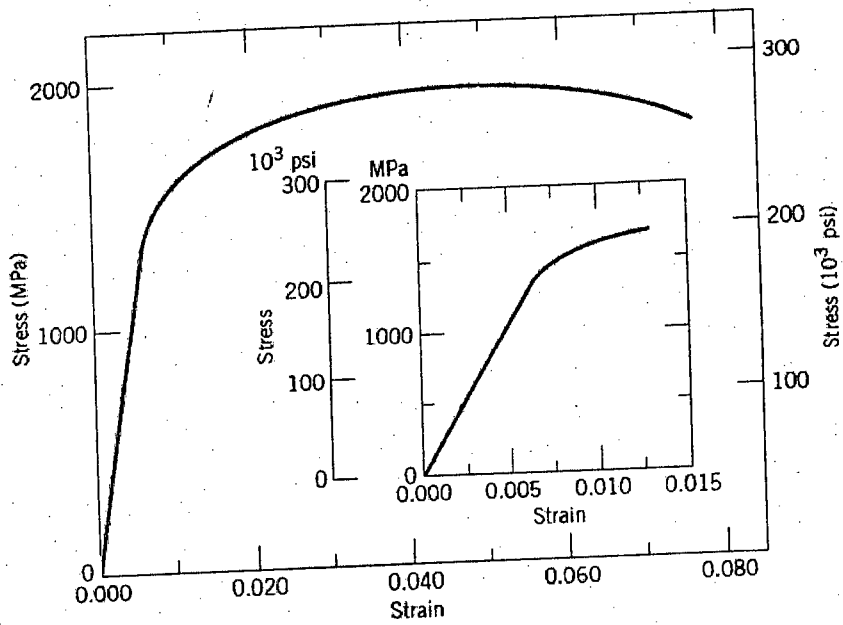
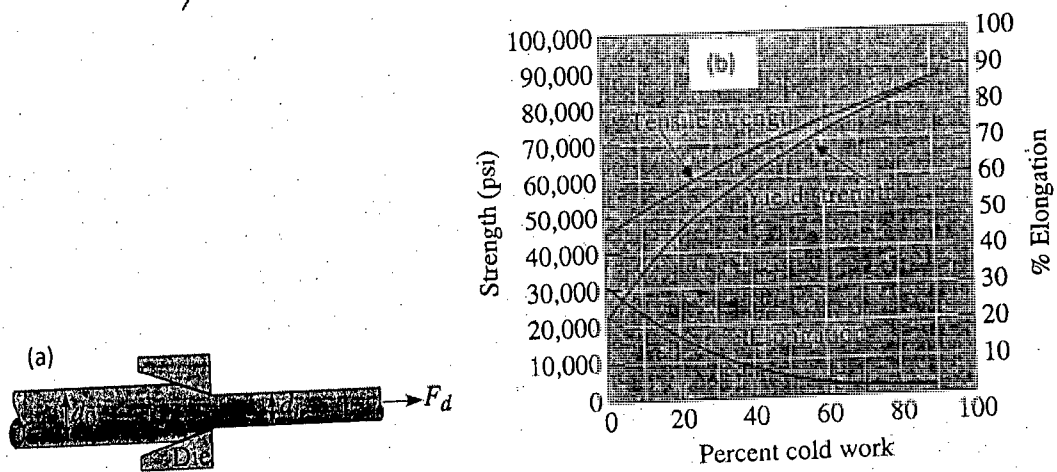

Figure 1: The tensile stress-strain behavior of brass alloy
Figure 2: (a) Wire drawing method for copper wire (b) The effect of cold work on the mechanical properties of copper.
1. (a) What is yield stress? Why do upper and lower yield points appear in stress-strain diagram during tensile testing of steels? (12)
- (b) A paper clip is made of wire 1.20-mm in diameter. If the original material from the wire is made from a rod 15-mm in diameter, calculate the longitudinal and radial engineering and true strains that the wire has undergone. (10)
- (c) A cylindrical specimen of a brass alloy 10.0 mm in diameter and 120.0 mm long is pulled in tension with a force of 11,750 N; the force is subsequently released (13)
- (i) Compute the final length of the specimen at this time. Use Figure 1 for your computation.
- (ii) Using Figure 1 again compute the final specimen length when the load is increased to 23,500 N and then released.
2. (a) "Hardness of a material can be properly measured using proper quantitative hardness testing method". Explain this statement for the case of low carbon steel and cast iron. (12)
- (b) Wire drawing method is used to produce a copper of 0.2 in diameter from a copper wire of 0.4 in diameter. Using the Figure 2 calculate the drawing force required to deform the initial copper wire and the stress acting on the wire after passing through the die. Comment on the final state of the wire. Will it break or not? (13)
- (c) What are the strengthening changes that occur during anyone of these strengthening processes? (10)
3. (a) Determine the minimum allowable thickness for a 3-in.-wide plate made of steel that has a fracture toughness of  $9000 \text{ psi}\sqrt{\text{in}}$ . The plate must withstand a tensile load of 40,000 lb. The minimum allowable thickness of the part will depend on the minimum flaw size that can be determined by the available testing technique. Assume that three nondestructive testing techniques are available. X-ray radiography can detect flaws larger than 0.02 in.; gamma-ray radiography can detect flaws larger than 0.008 in.; and ultrasonic inspection can detect flaws larger than 0.005 in. Assume that the geometry factor  $Y = 1.0$  for all flaws. (15)
- (b) A.K. Company has produced several thousand shafts that have a fatigue strength of 20,000 psi. The shafts are subjected to high bending loads during rotation. The sales engineers report that the first few shafts placed into service failed in a short period of time by fatigue. Suggest and explain three processes by which the remaining shafts can be salvaged by improving their fatigue properties. (10)
- (c) Why and how does creep failure occur? Explain with suitable figures. (10)
4. (a) Draw the annealed and normalized microstructure of three steel samples containing (i) 0.35% C, (ii) 0.6% C and (iii) 1.2% C. (12)